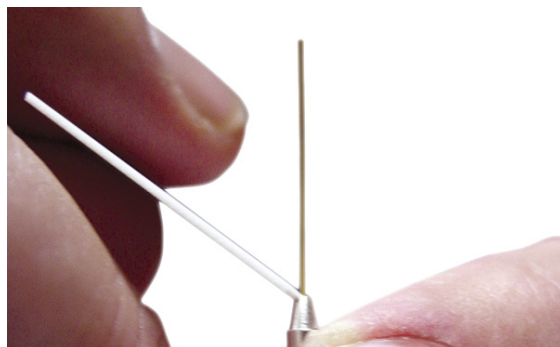

Figure 12.
- Check the column end. It should be square and free of cracks. If needed, trim it. See Figure 12